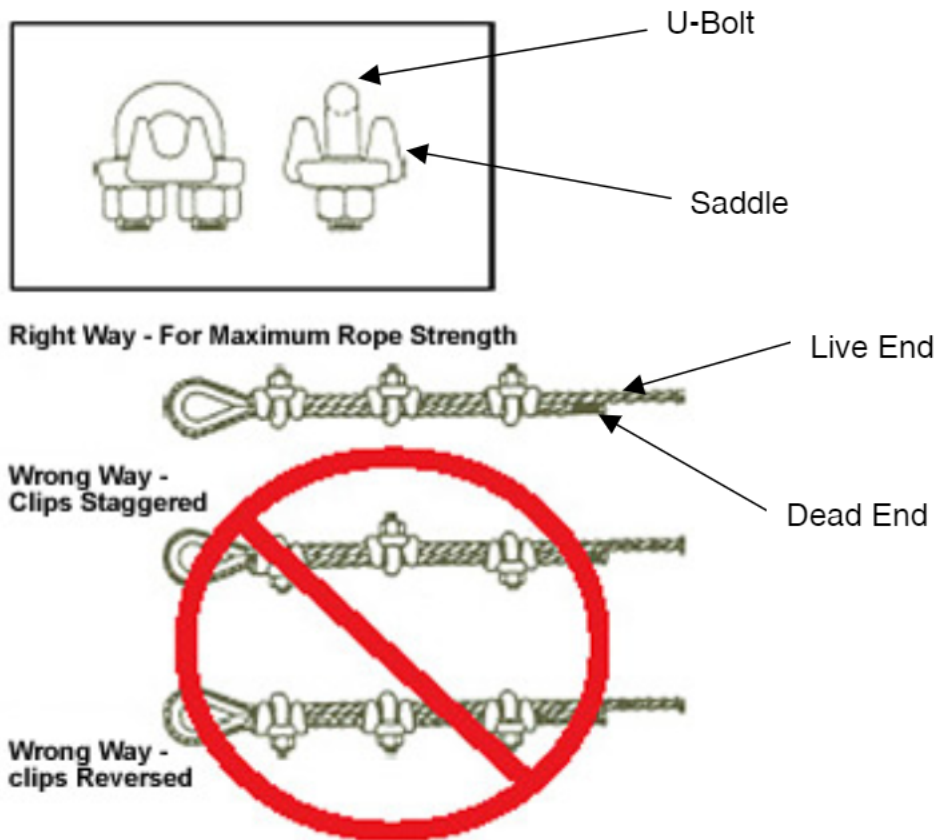

Figure 3
with 3/8" shackles. Attach the end of the crimped eye of the hoist cable with a 3/8" shackle. See Figure 3. See Table 2 for hoist cable end attach point and pulley locations.
Attach the one 5/16" tower guy wire with out an eye at one end to the eye of the turnbuckle that is farthest away from the center foundation. Use a 1/2" open thimble. Secure with three 5/16" saddle clamps. Refer to saddle clamp installation procedure in Figure 3, and make the dead end 24 inches long.
Attach the remaining 3/16" guy wires that are not attached to tower couplers to the remaining turnbuckle eyes using 3/8" open thimbles. Secure with three 3/16" saddle clamps per guy wire. Refer to the saddle clamp installation procedure in Figure 3, and make the dead end 24 inches long.
1. Locate the first saddle clamp as close to the thimble as possible with the U-bolt over dead end, the live end rests in clip saddle. See Figure 3.
Lift the gin pole to a vertical position and play out the hoist cable as you do so. Attach the gin pole guy wires to their anchors at the left and right side foundations. Use 3/8" open thimbles and three 3/16" saddle clamps at each location. Refer to the saddle clamp installation procedure in Figure 3. Use a level to get the gin pole plumb with the tension adjusted so there is about 4 inches of sag in each wire.
Guy Wire Attachment-Attach the guy wires that are attached to the lowest tower coupler to the lowest turnbuckles, at the left and right side foundations. Use a 3/8" open thimble through the eye of the turnbuckle. Pull the side guy wires tight and then slack off about 6 inches and secure with three 3/16" saddle clamps. Refer to the saddle clamp installation procedure in Figure 3. The guy wires will be readjusted later during the tuning process, so do not over tighten and damage the wire.
Attach the lowest 3/16" guy wire between the gin pole end fitting and the open hole in the lowest coupler guy wire attachment ring. Use a 3/8" thimble and three 3/16" saddle clamps. Pull the guy wire tight. Don't worry about the excess wire at this time, you can trim the tails after the tower has been adjusted. Refer to the saddle clamp installation procedure in Figure 3.